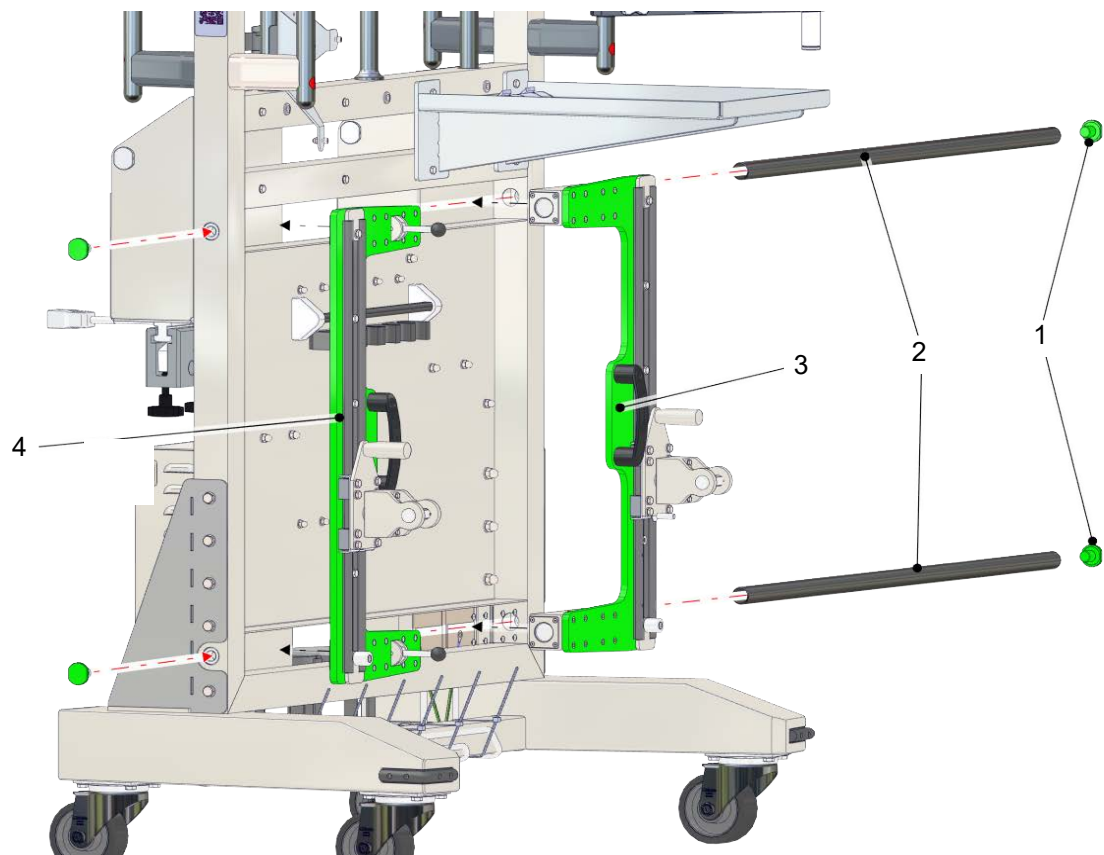
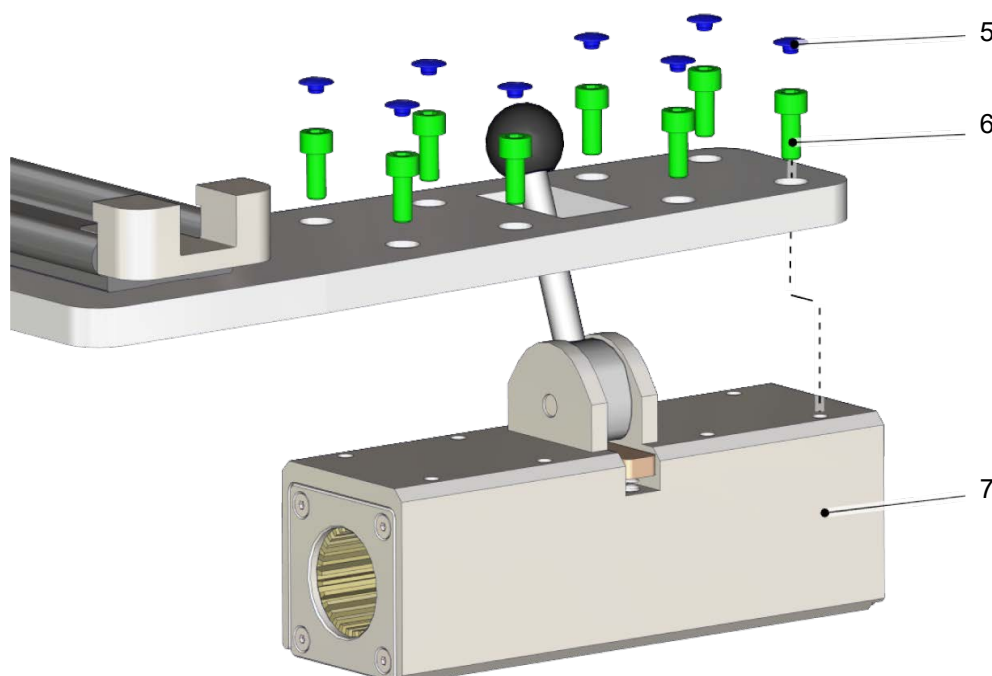

Fig 3.11 Remove/Fit Slide Mechanism Bearing Block
Fig 3.12 Remove/Fit Bearing Block Assembly
Image in Fig 3.12, shows left hand locking bearing block. Right hand bearing block is same principle.
- With reference to Fig 3.12 locate new bearing block (7) on base plate (passing lever handle through aperture on left hand unit).
- Attach using 8off M5x12 screws (6) and tighten.
- Cover screw heads with 8off M5 screw caps (5).
- With reference to Fig 3.11 hold slide mechanisms (3 and 4) on CCTS frame with bearing blocks in their respective gaps in frame.
- Slide guide rails (2) through each bearing block until they protrude and push them through holes in frame upright.
- Insert fixing boss (1) into each guide rail and tighten.